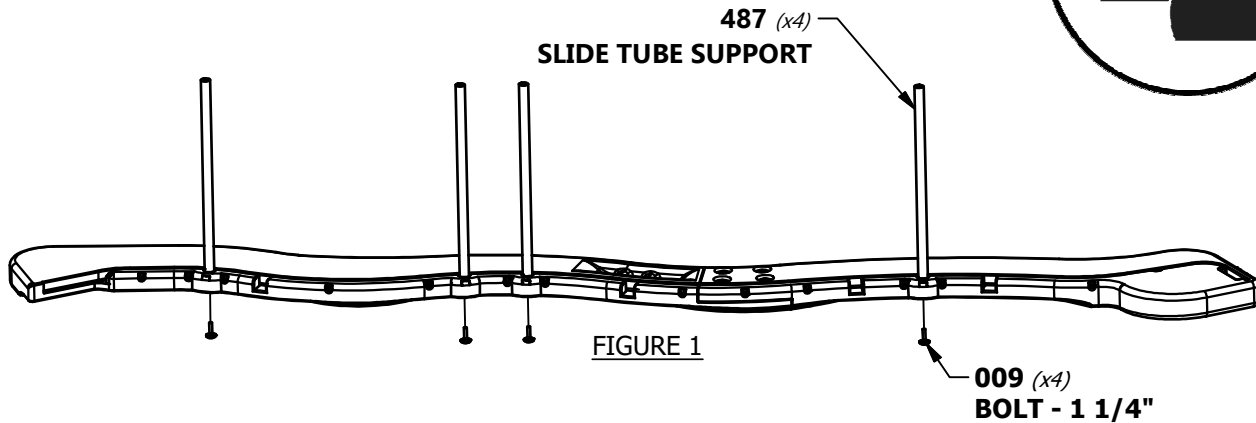

FIGURE 1
INSERT THE (4) SLIDE SUPPORT TUBES INTO THEIR RESPECTIVE PILOT LOCATIONS (FIGURE 1).